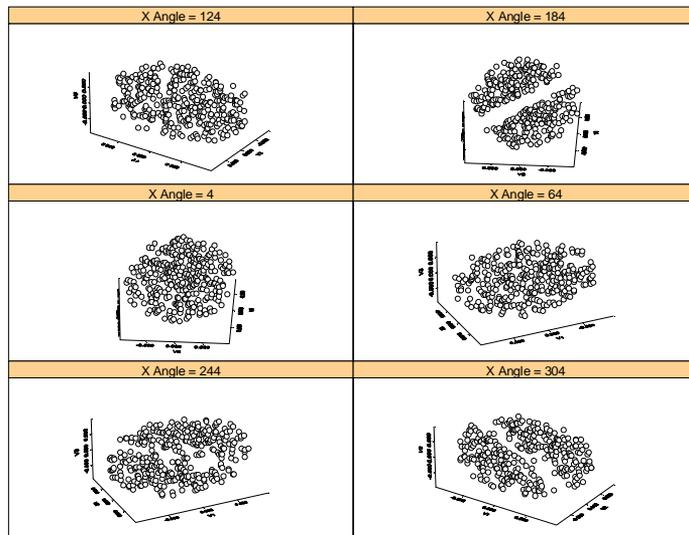

Figure 3.46: Multiple panel 3D scatter plot of the sliced ball data.
2. Click the **6 Panel Rotation** button  on the **Plots 3D** palette. The resulting graph is displayed in Figure 3.46.